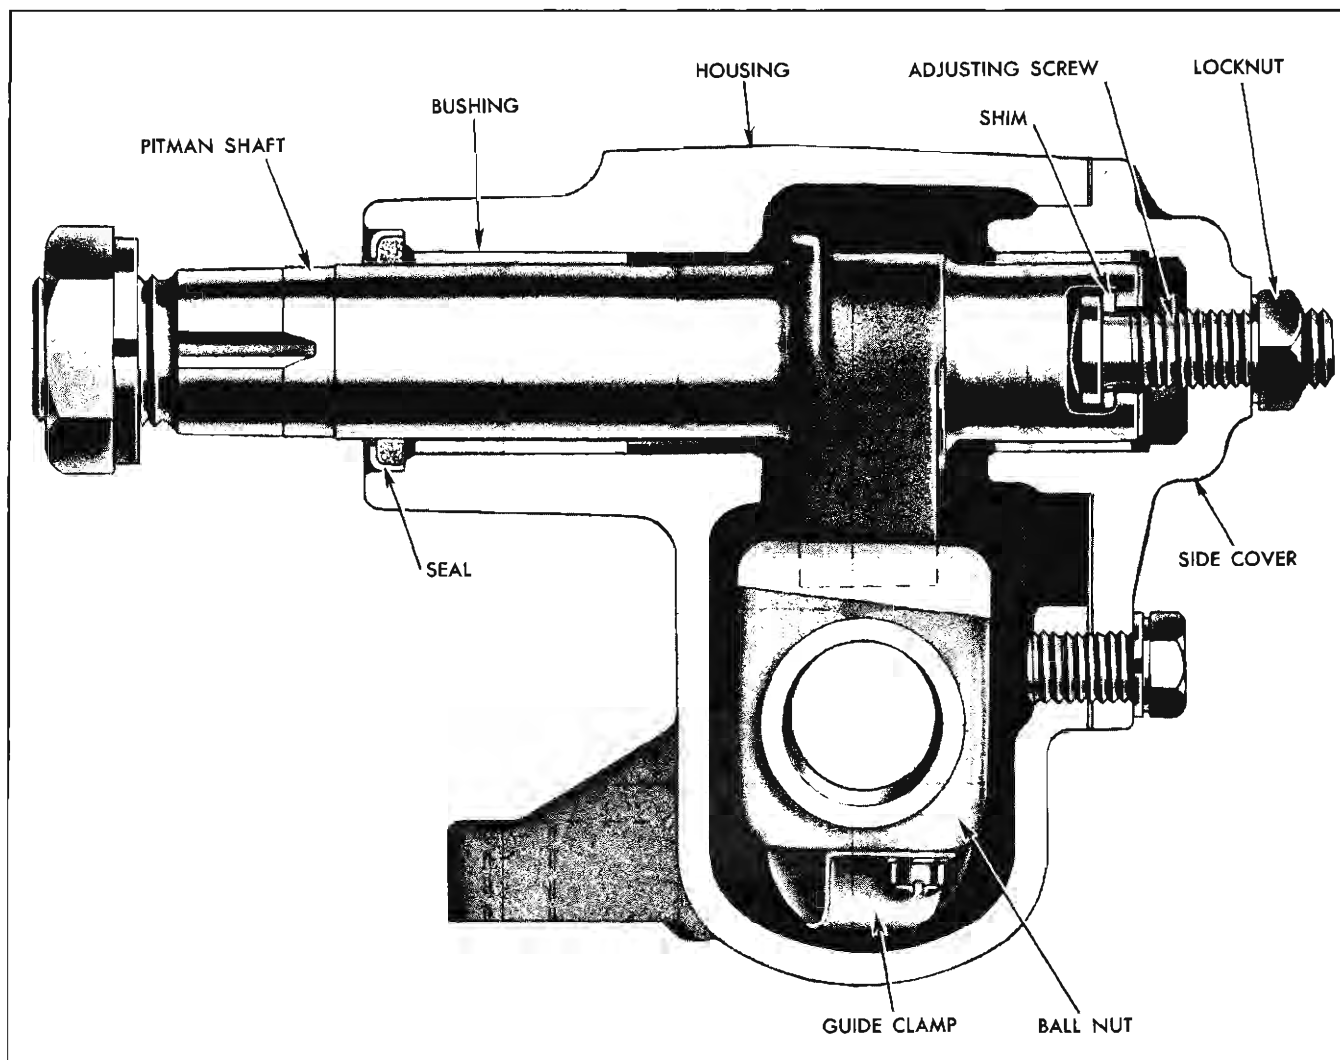

Fig. 9-13 Steering Gear Cut-away View
3. Install bushing with Tool J-1614, making sure bushing is flush with inner surface of housing (Fig. 9-13).